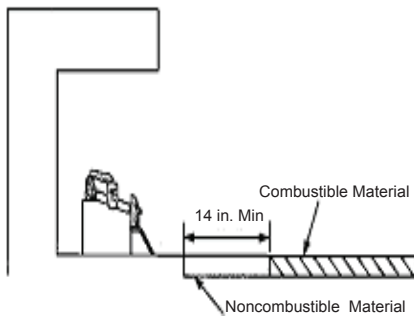

Figure 7- Minimum fireplace clearances if installed at floor level
- If installing appliance on floor level, you must maintain the minimum distance of 14 inches to combustibles (see Figure 7).